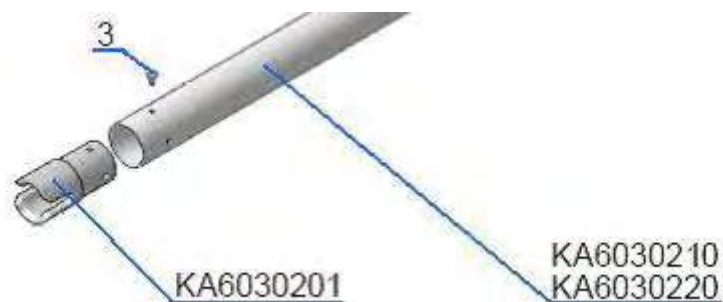

Fig. 8
- 8) Inspect connection of the tip KA6030201 and the flap rod (KA6030210 and KA6030220, Transverse rod tube) for play. In case of play replace the rivets (3) (C9996653 Stainl. steel rivet A2 4x11.5) to next bigger ones (Fig. 8). Eventually diameter of the rivets should not exceed  $\frac{5}{256}$ " / 0.5 mm. If it would, replace the tubes (KA6030210 and KA6030220, Transverse rod tube) and the tip KA6030201.